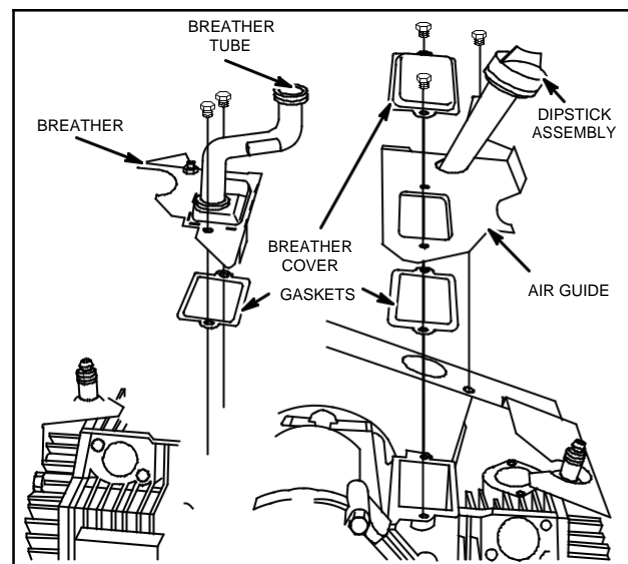

Fig. 23 – Install Breather And Air Guide
2. Install breather and gasket #1 side, Fig. 23.